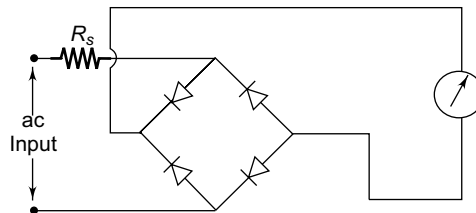

Fig. 4.42
4. The circuit diagram of Fig. 4.42 shows a full wave rectifier ac voltmeter. The meter movement has an internal resistance of $250\ \Omega$ and required 1 mA for full scale deflection. The diodes each have a forward resistance of $50\ \Omega$ and infinite reverse resistance. Calculate: